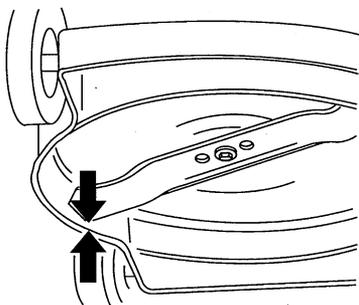

Figure 24
2. Measure the distance from the bottom edge of the mower housing to the blade tip (Fig. 24). Rotate the blade 180° and measure to other blade tip.